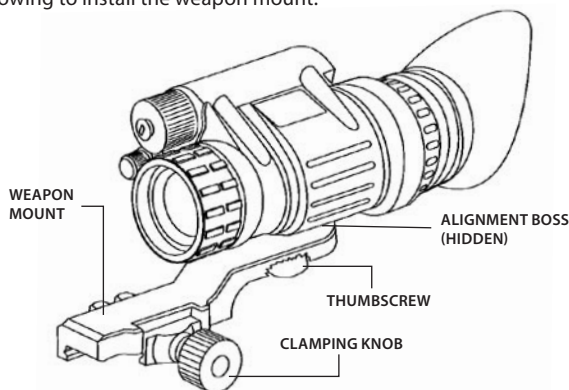

Figure 3-14. Weapon Mount Usage
- (1) Adjust the monocular and weapon mount as shown in Figure 3-14. Be sure to align the alignment boss on the weapon mount with the alignment groove in the monocular.
- (2) Screw in the thumbscrew to secure the monocular to the weapon mount.
- (3) Loosen the clamping knob on the weapon mount. Position the weapon mount, now secured with the monocular, onto the weapon's mounting rail. Tighten it by turning the clamping knob.